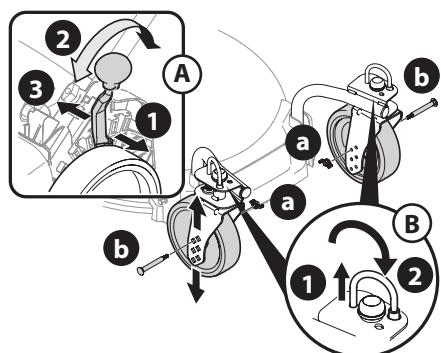

Figure 24
NOTE: The rear wheel cutting height adjustment lever is located above the rear left wheel (Inset A, Figure 24).
- NOTE:** The caster wheels cutting height are determined by selecting one of six positions on each caster assembly (Figure 24).
6. The casters can be locked in a straight ahead position or positioned to swivel freely (Inset B, Figure 24).